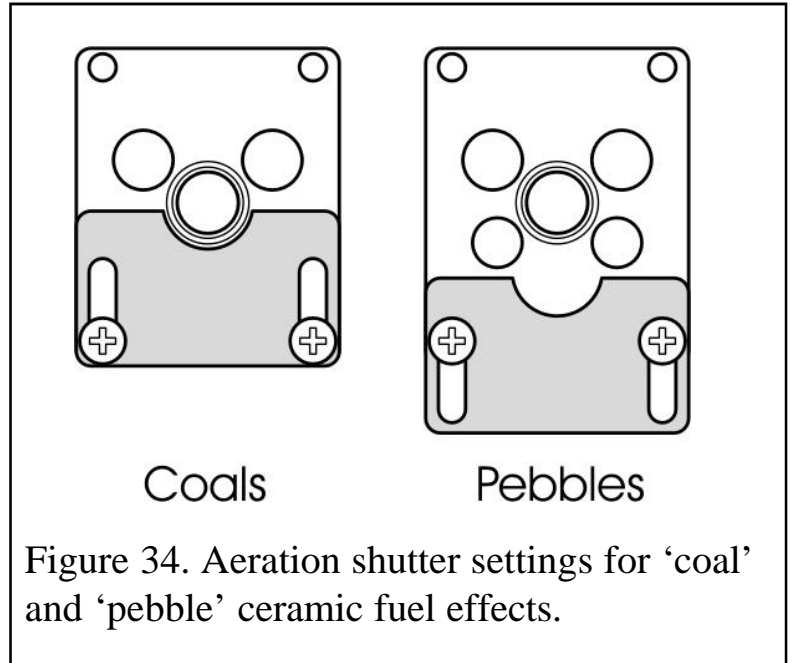

Figure 34. Aeration shutter settings for 'coal' and 'pebble' ceramic fuel effects.
1. The aeration shutter is factory set for use with a 'pebble' ceramic fuel effect. It is important to ensure that the aeration setting is correct for the ceramic fuel effect used. Check the aeration shutter setting even if fitting the 'pebble' fuel effect (See figure 34).